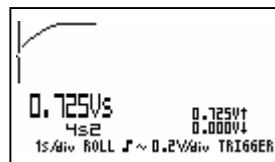

Fig 57
- '**roll**' = roll mode (*fig 57*)
- '**roll**' = rolmode (*fig 57*)
- '**roll**' = mode 'roll' (*fig 57*)
- '**roll**' = Rollmodus (*fig 57*)